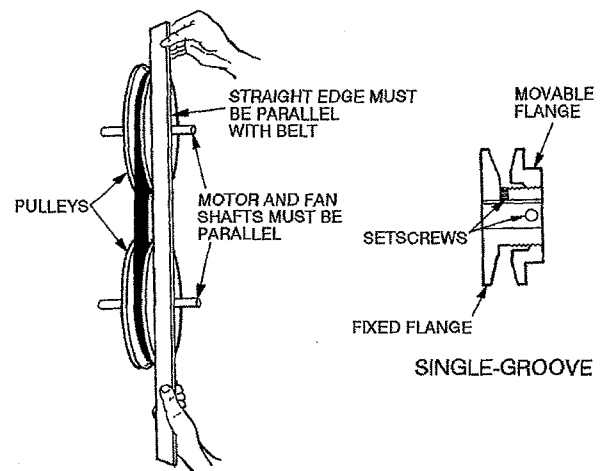

Fig. 47 — Evaporator-Fan Pulley Adjustment
3. Loosen movable pulley flange setscrew (see Fig. 47).